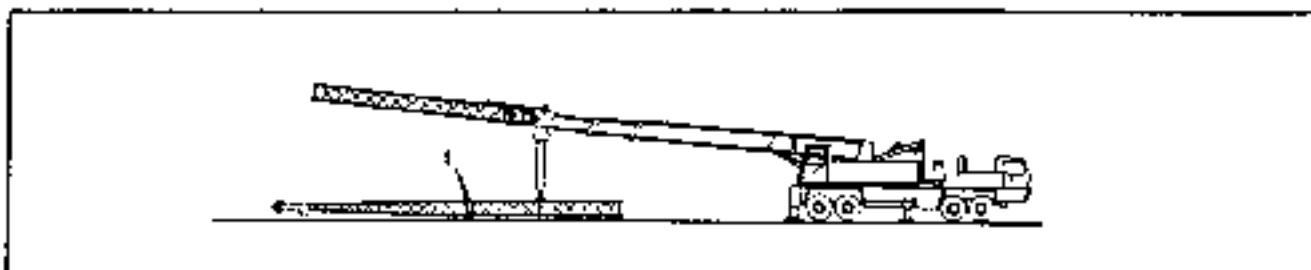

Fig. 4-56
Step 7: Reposition and level the machine approximately 40' from jib top section as in Fig. 4-56. Use hoist to reposition jib top section and to connect the short straight extension. Insert pins and keepers at "J". Reposition top section